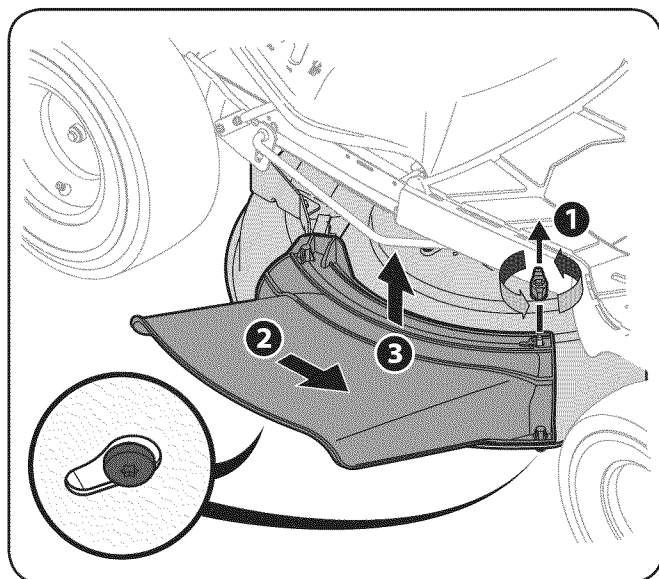

Figure 1-1
3. Remove the discharge chute from the deck discharge opening by lifting it off the deck. See Figure 1-1.
3. Levante el canal de descarga hacia arriba. Vea la Fig 1-1.